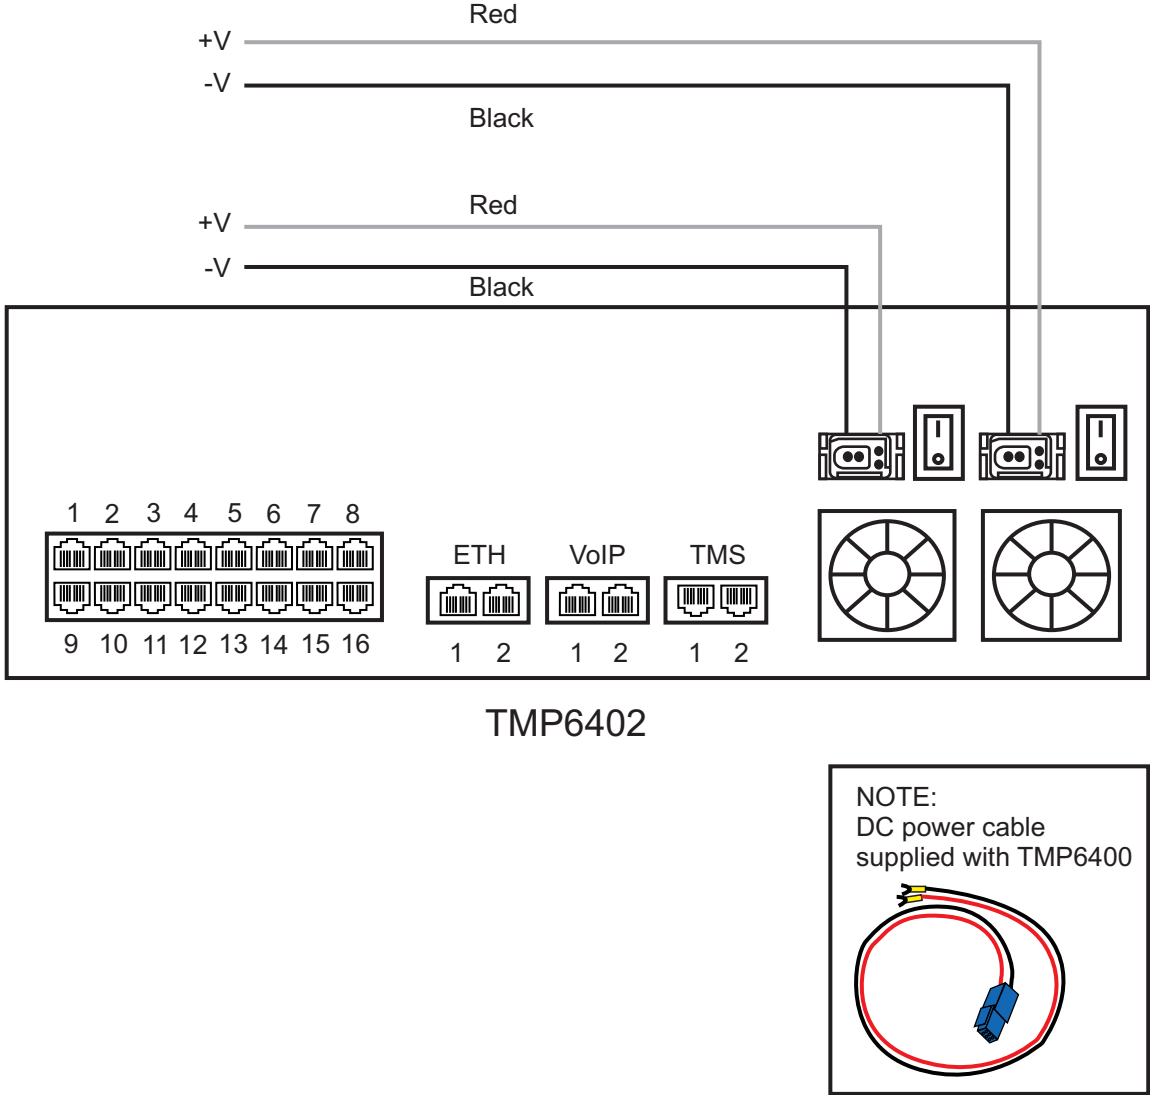

Figure 2.17 TMP6402 DC wiring diagram
- 1. Connect the DC cable supplied with the TMP6402, as shown in figure 2.17 on page 29, to the DC outlet at the rear of the TMP6402.
- 2. Connect the red lead of the DC power cable to the positive terminal of the DC power source, as shown in figure 2.17 on page 29.